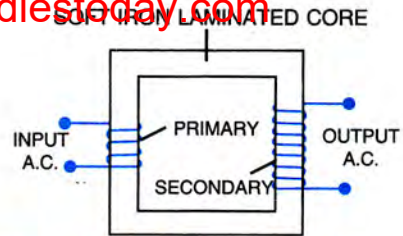

Fig. 10.42 Step up transformer
- (v) Fig 10.42 shows a simple labelled diagram of a step up transformer.